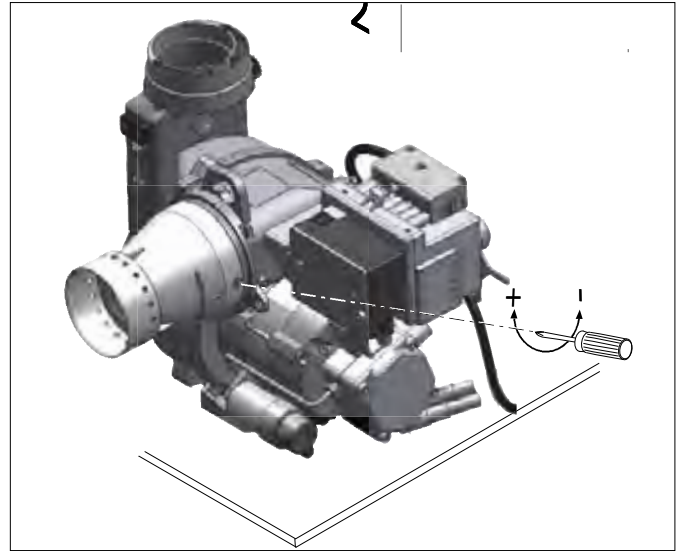

Figure 10-3: Removal of burner head
1. Remove the burner head. Refer to Figure 10-3. Loosen the two fixing screws and remove the head from the burner.
7. Re-fit the burner head. Refer to Figure 10-3.
- If necessary, adjust the diffuser position by rotating the adjustment screw, located on the front of the burner, using a 4mm Allen key. Refer to Figure 10-3. Re-check the diffuser setting using the gauge, as described above.
5. Adjust the burner air damper by rotating the adjuster knob (see Figure 10-3) to achieve the required %CO₂.